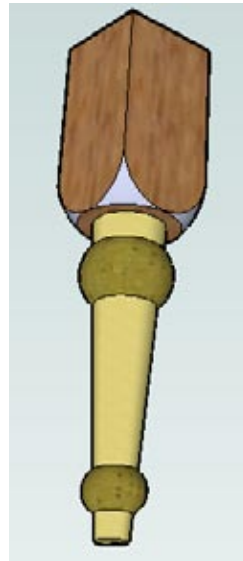

Figure 4-41
12. Use Follow Me to extrude the leg section around the circle. Then erase the circle and trim the rectangle, as shown in Figure 4-41.